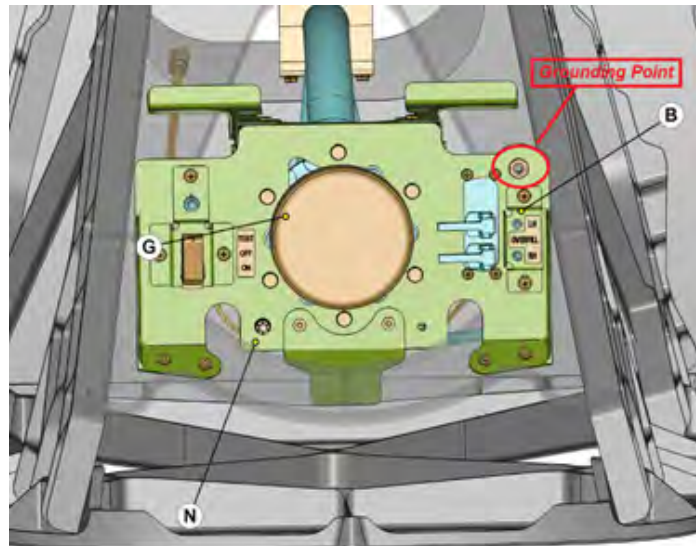

Figure 1
- (b) Bond the fuel nozzle to a ground near the fuel filler on the airplane. Reference Figure 1 of this section.